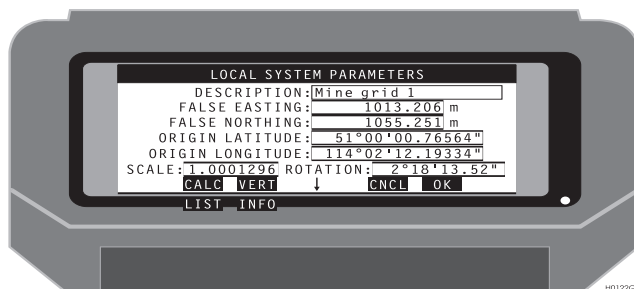

Figure 2.40. Local System Parameters Screen
- Press EDIT to access the Local System Parameters (Figure 2.40).